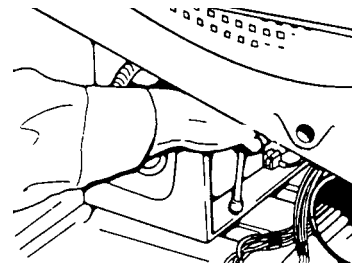

Fig. 25
2. Remove two screws mounting motor in place. (Fig. 25)